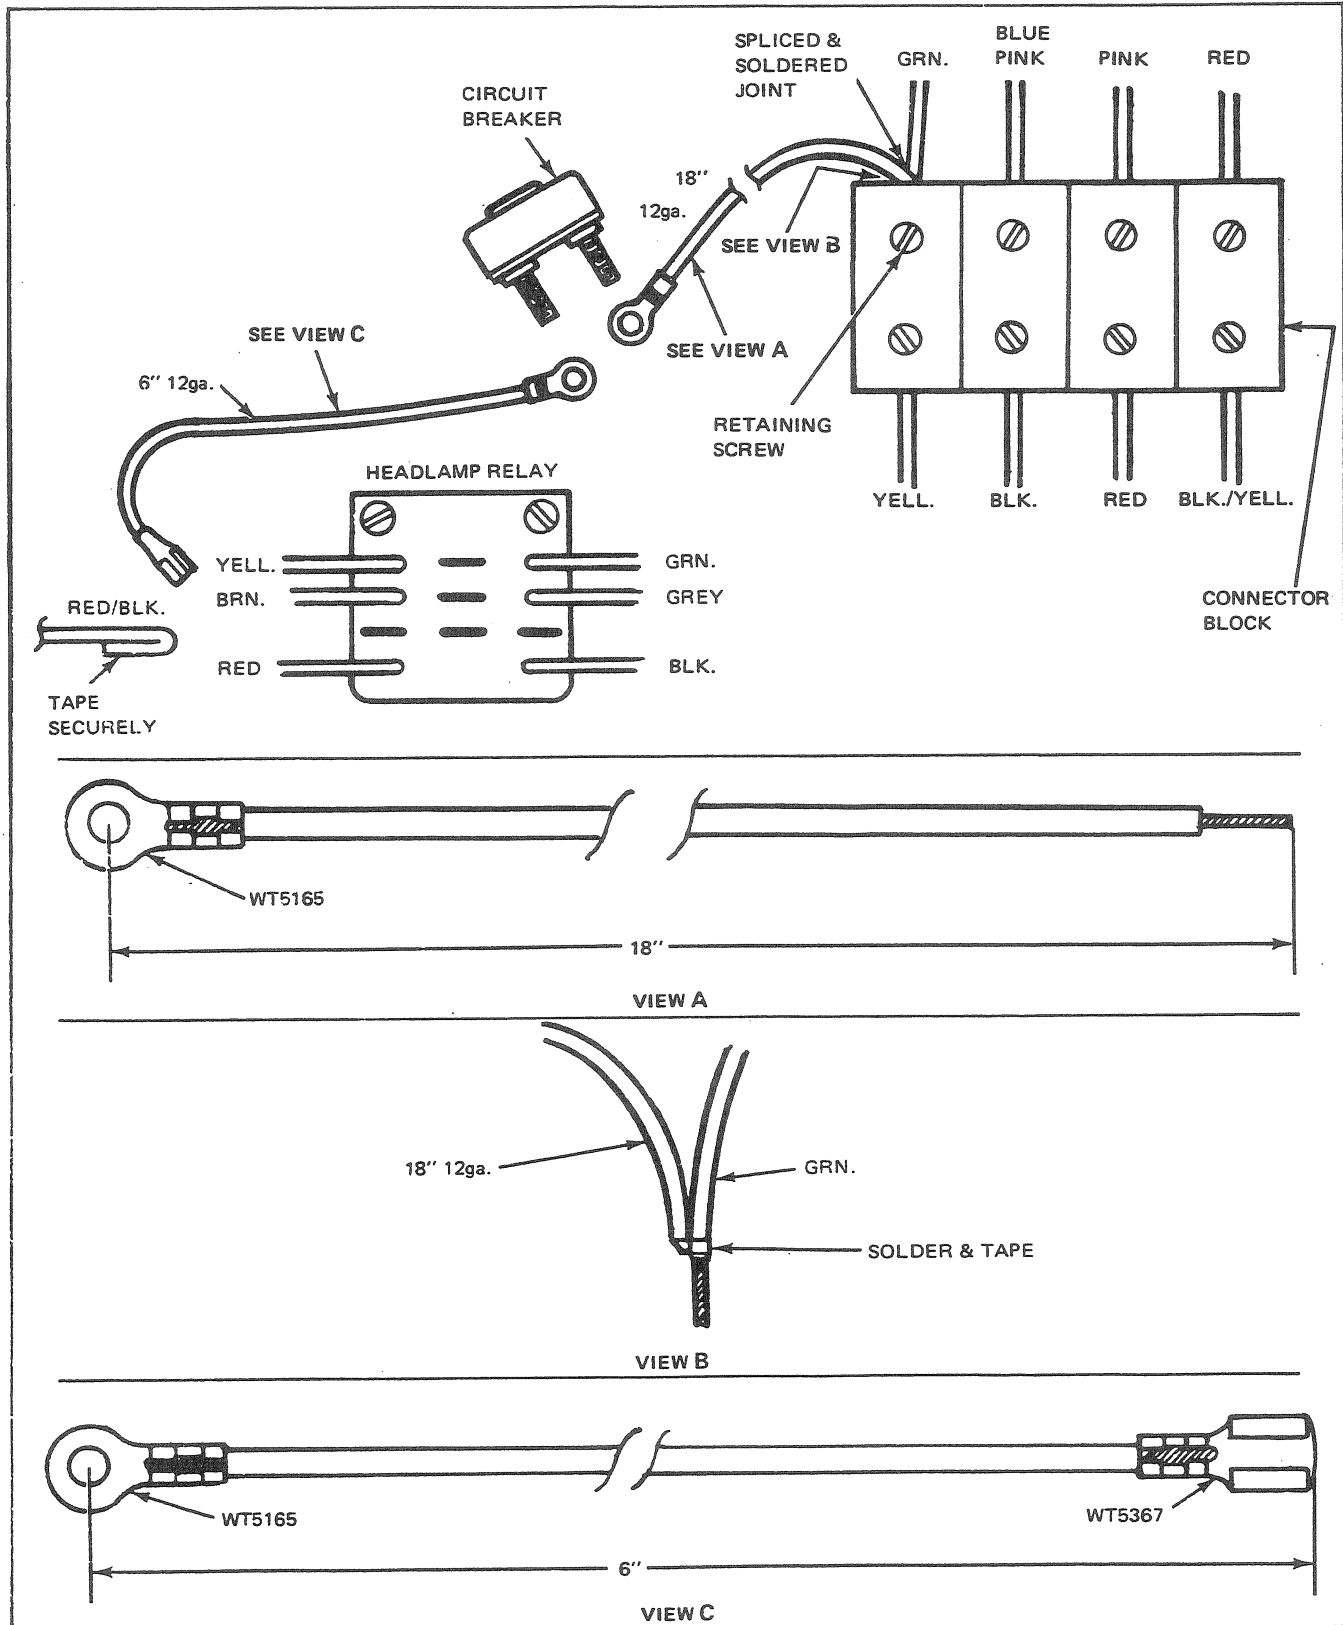

Fig. 16 - Article No. 116
26. Position the forward limiter switch on the mounting plate and install original two (2) screws.
28. Install and partially tighten the original three (3) bolts retaining the mounting plate to the inner front fender. Remove prop from headlamp and allow sector gear on cross-shaft to engage with gear on mounting plate.
32. Place left radiator deflector in position and install original bolt. Place air deflector in position over top of radiator and install two (2) screws.
34. Remove two (2) bolts and two (2) allen screws to retain the steering column to the support bracket and carefully lower steering column onto seat to avoid damage to solder joints on wires to column switches.
35. Carefully pull down the connector block to gain access to the wiring. (See Fig. 16 on page 12).
36. Fabricate piece of 12 gauge wire 18 inches long, bare both ends 1/4" - 3/8". Crimp and solder eyelet terminal to one end. (See Fig. 16 - View A on page 12).
38. Solder wire fabricated in step 36 (18"-12 ga.) to the newly bared portion of the green wire. (See Fig. 16 - View B on page 12). Tape securely and reconnect to connector block. Tighten screw.
40. Attach eyelet to one post on 30 amp. circuit breaker and secure with No. 10-24 nut. (See Fig. 16 on page 12).
42. Fabricate piece of 12 gauge wire 6 inches long. Crimp and solder eyelet terminal to one end and female terminal to the other end. (See Fig. 16 - View C).
43. Attach eyelet terminal to other post on circuit breaker and install No. 10-24 nut. (See Fig. 16) Using electrical tape, carefully wrap wires and circuit breaker terminals.